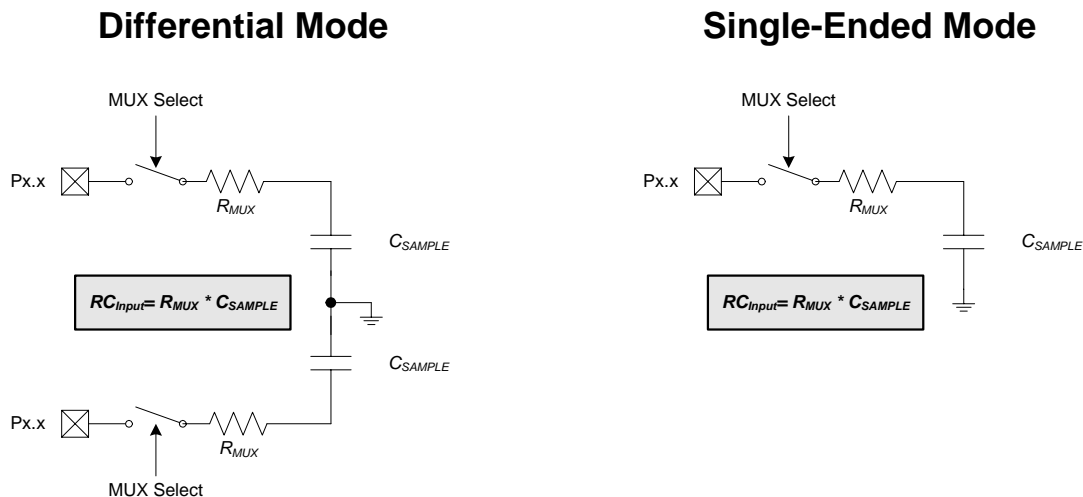

Figure 7.3. ADC0 Equivalent Input Circuits
Figure 7.3 shows the equivalent ADC0 input circuits for both Differential and Single-ended modes. Notice that the equivalent time constant for both input circuits is the same. The required ADC0 settling time for a given settling accuracy (SA) may be approximated by Equation 7.1. When measuring the Temperature Sensor output or V_{DD} with respect to GND, R_{TOTAL} reduces to R_{MUX} . See Table 6.8 for ADC0 minimum settling time requirements as well as the mux impedance and sampling capacitor values.